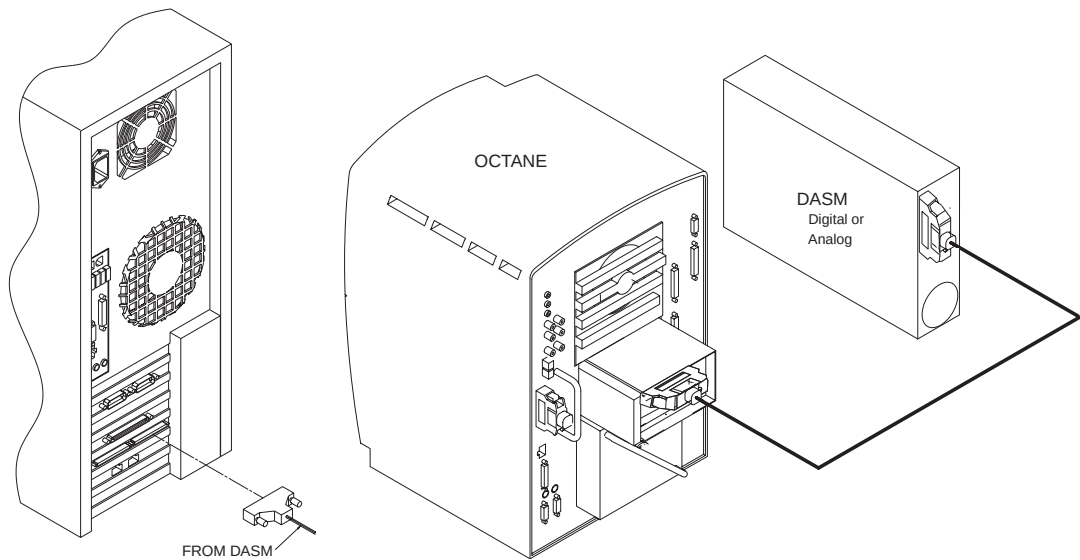

Figure 2-15 SCSI Cable Connection for DASM (HP xw8000 at left, Octane at right)
6.) Attach the free end of the SCSI cable to the rear of the Host Computer (see Figure 2-15).